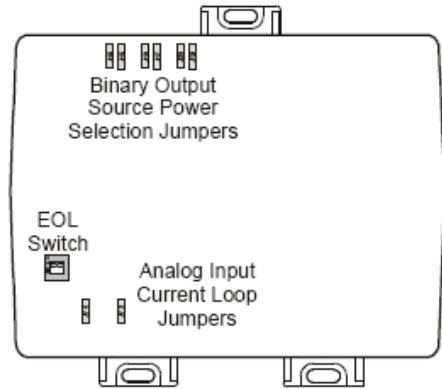
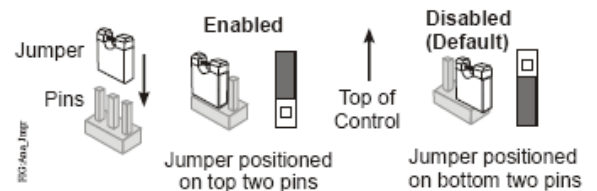

Figure 10: FEC16 with Cover Removed Showing Jumper and EOL Switch Positions
Figure 13: Current Loop Jumper Positions
Each field controller has an End-of-Line (EOL) switch, which, when set to ON/up, sets the field controller as a terminating device on the bus. See Figure 3 or Figure 10 for the EOL switch location on the field controller. The default EOL switch position is off/down.
The Universal Input (UI) current loop fail-safe jumpers are on the circuit board under the housing cover near the UI terminals (Figure 10). When a UI is defined (in the system software) as a 4-20 mA analog input and the UI's current loop jumper is in the (default) Disabled position (Figure 13), the 4-20 mA current loop circuit opens whenever power to the FEC is interrupted or off.
Setting the current loop jumper to the Enabled position (Figure 13) connects an internal 100 ohm resistor across the UI terminals, which maintains the 4-20 mA current loop circuit even when power to the FEC is interrupted or off.